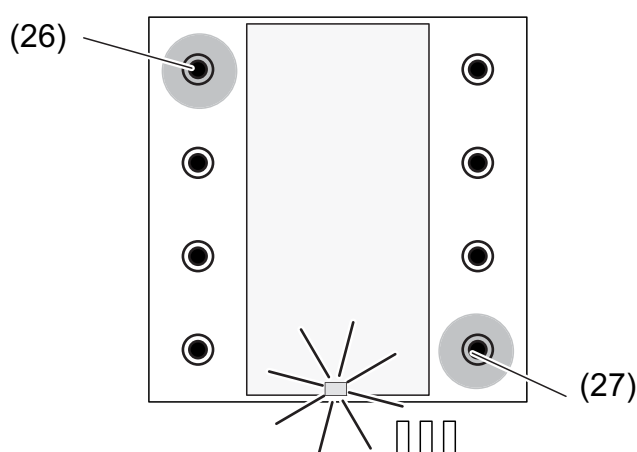

Figure 8: Buttons for activating Programming mode
- Activate Programming mode. Press and hold down the pushbutton at the top left of the basic device (26) (figure 8). Then press second push-button at the lower right (27).